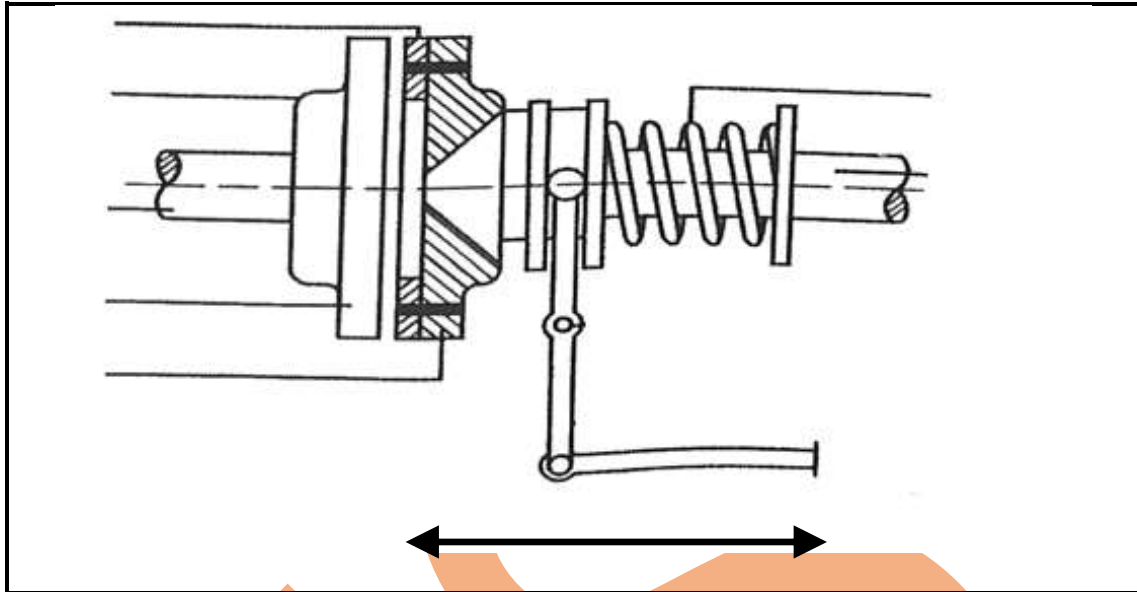

FIGURE 2
1.3 Refer to FIGURE 2 and label the clutch parts as indicated. Write only the part next to the letter (A–G) in the ANSWER BOOK.